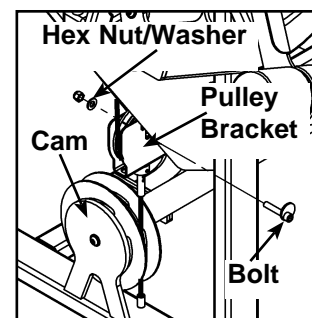

Figure 2
- E. Locate the cable that is connected to the cam. See Figure 2.
- F. Remove bolt, washer and hex nut securing the pulley to the pulley bracket. See Figure 2.